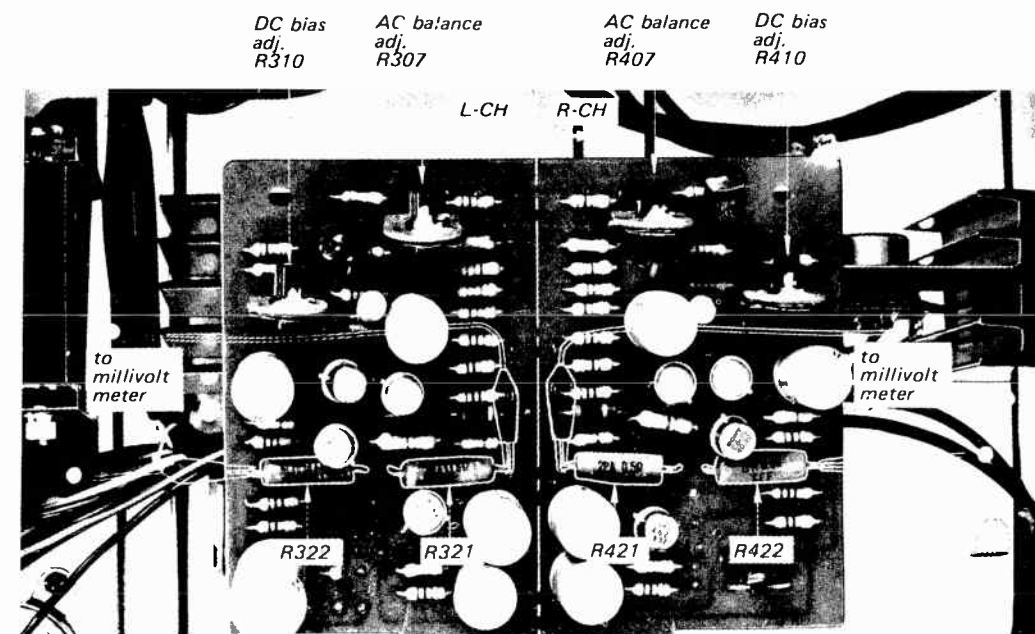

Fig. 3-1 Power amplifier adjustment
To avoid accidental power transistor damage, increase the ac line voltage gradually (using a variable transformer) while measuring the voltage across emitter resistors R321 and R322 (or R421 and R422) as shown in Fig. 3-1. Check to see that the reading does not exceed 50mV. If it does, turn off the power immediately, then check and repair the trouble in the power-amplifier board.
2. Connect the dc millivoltmeter between R321 and R322 (R421 and R422) as shown in Fig. 3-1.
1. Apply a drop of cement solvent to the semifixed resistors (Fig. 3-1).